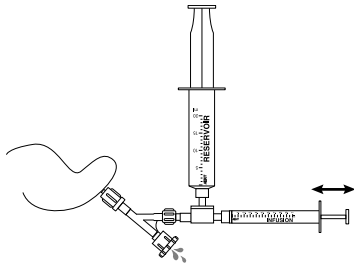
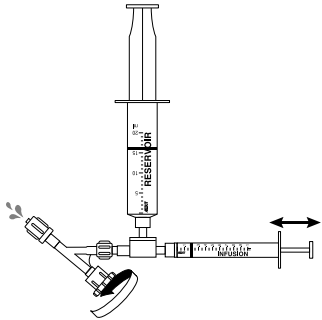
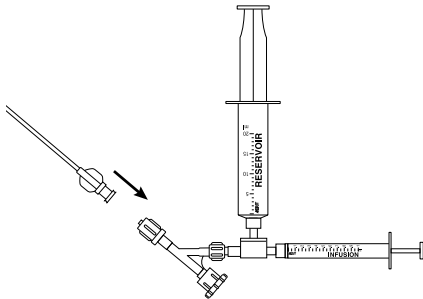

Figure 3
Figure 4
Figure 5
4. Prime the hemostasis and check valves by placing a gloved thumb over the rotating adapter located on the hemostasis valve while activating the 1 ml infusion syringe. (Figure 3) This will force saline out of the back end cap of the hemostasis valve. Close the back end cap by twisting it in a clockwise direction (Figure 4). Continue to activate the infusion syringe to debubble the distal segment of the hemostasis valve.
5. Prime the hemostasis and check valves by placing a gloved thumb over the rotating adapter located on the hemostasis valve while activating the 1 ml infusion syringe (Figure 4). This will force saline out of the back end cap of the hemostasis valve. Close the back end cap by twisting it in a clockwise direction (Figure 5). Continue to activate the infusion syringe to debubble the distal segment of the hemostasis valve.
7. Continue to activate the infusion syringe. This will ensure that a liquid meniscus is at the distal segment of the hemostasis valve. Attach the rotating adapter of the hemostasis valve to the luer lock connector on the Fountain Infusion Catheter, making sure that a liquid-to-liquid connection is established. (Figure 5)